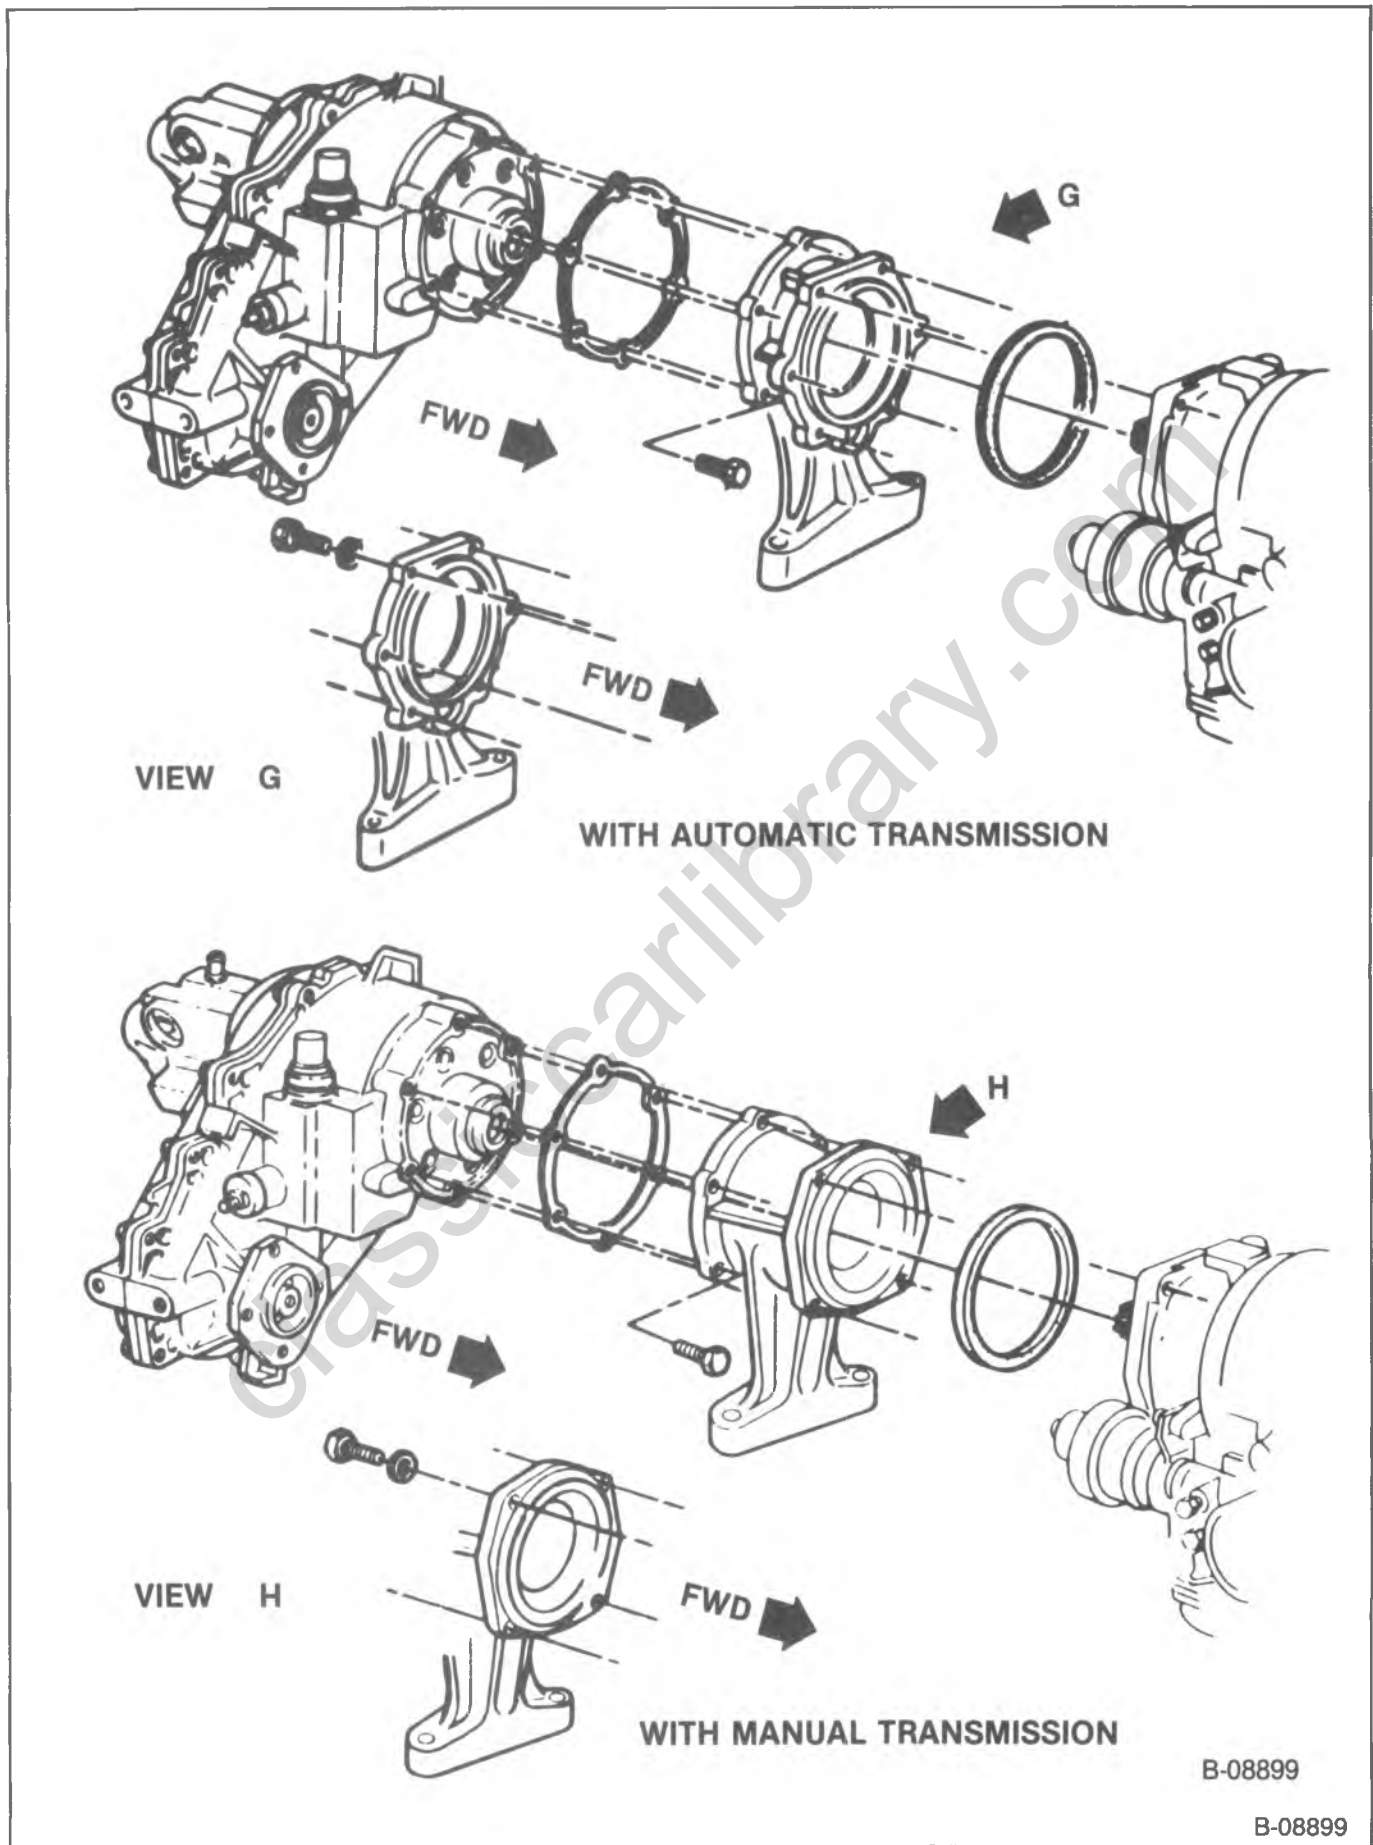

Figure 6—Transmission Adapters
7. Transfer case-to-transmission adapter bolts (figure 6).
1. Gasket to the transmission (figure 6).